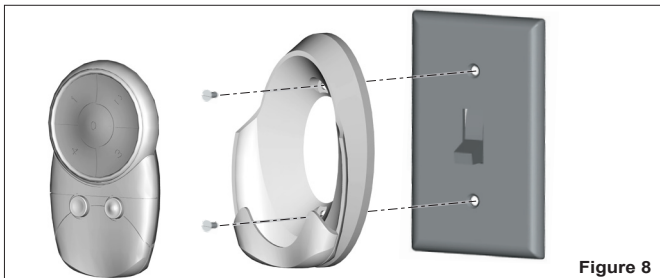

Figure 8
2. Mount the remote holder over the ceiling fan's wall switch using the existing wall plate screws. Refer to Figure 8.